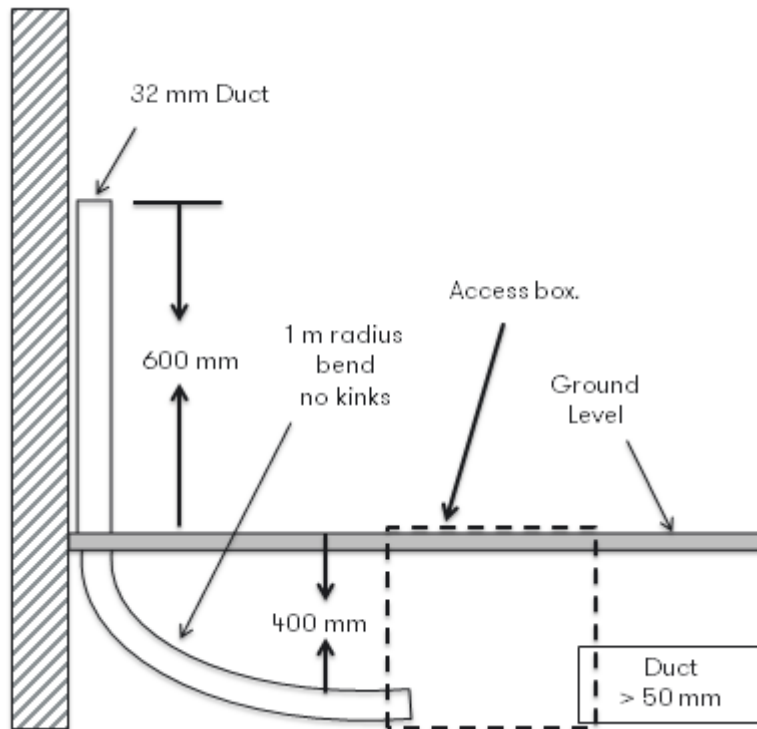

Fig 2 Alternative option for External Duct without ETU
- The duct must have a removable end cap fitted to prevent ingress of debris in advance of cable installation. (Fig 2)